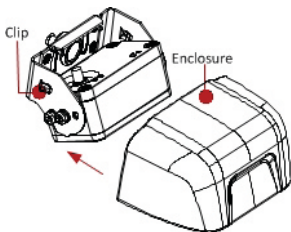

Figure 4 Assemble Enclosure
Step 4 Assemble enclosure to main body along direction shown in Figure 4 to finish installation.